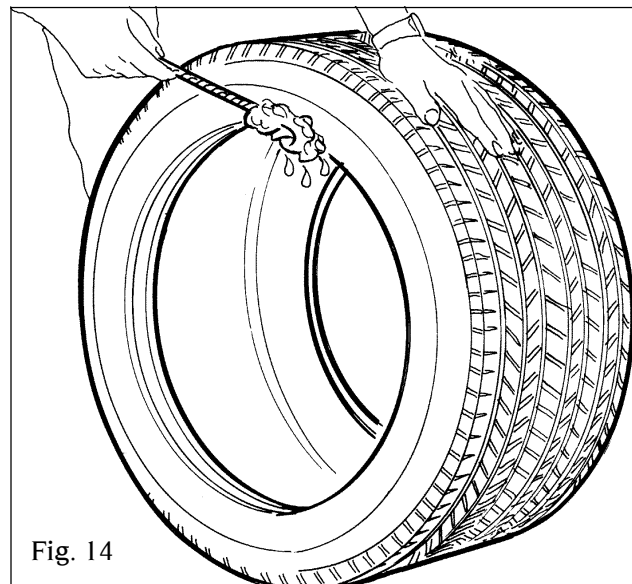

Fig. 14
- ❑ Apply a liberal amount of tire manufacturer approved rubber lubricant to both beads before attempting the mounting operation (Fig. 14).